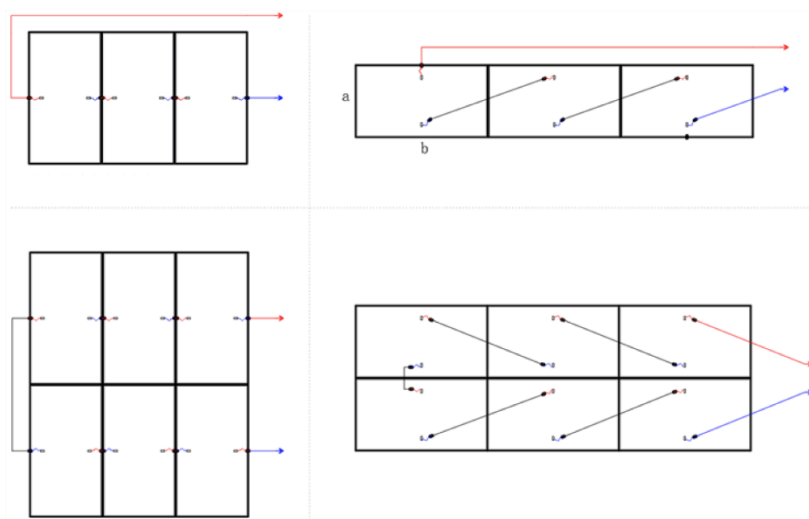

Figure. 7 Common arrangement of modules
- At present, the PV module arrangement is more common in single vertical row, double vertical row, single horizontal row, double horizontal row, as shown in Figure 7: